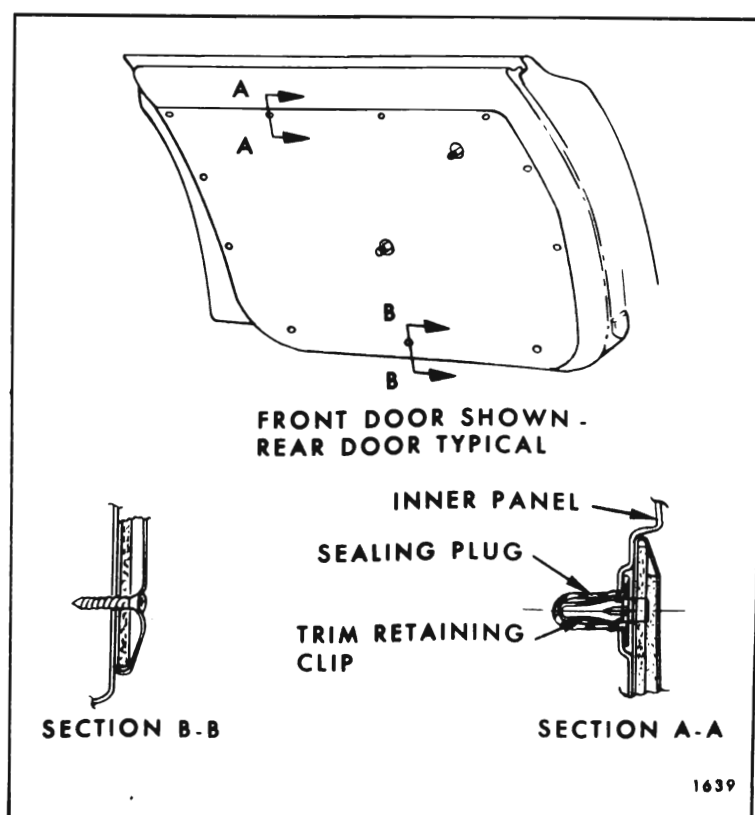

Fig. 7-20—Door Trim Pad Retention
3. Carefully insert tool J-6335, or an equivalent flat-bladed tool, between door trim assembly and door inner panel at retaining clip locations and disengage clips from plastic sealing plugs. (Fig. 7-20).